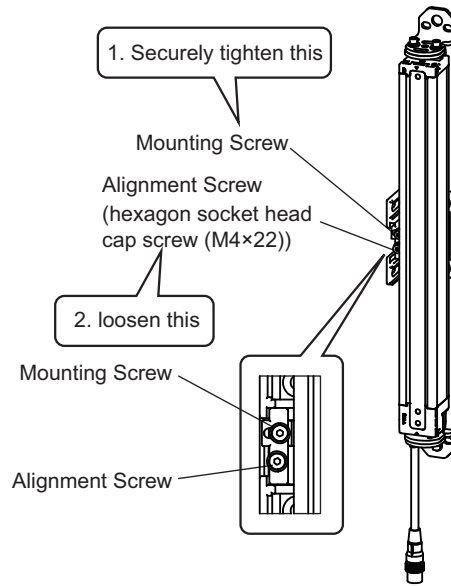

Fig. 6
- Securely tighten the Mounting Screw to fix the Intermediate Bracket to the F3SG-R housing. The recommended torque to tighten the Mounting Screw is 3.0 N·m. Then loosen the Alignment Screw (hexagon socket head cap screw (M4×22)) of the Intermediate Bracket. (Fig. 6)